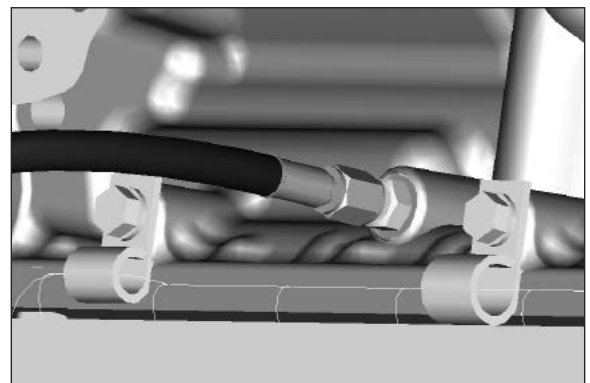

Figure 35
8. Using the special fitting (379812) to securely attach the high pressure line to the transmission. This fitting is included with the PTO. Tighten to 8-10 lb-ft [11.0-13.5 N-m] (**Fig. 35**).